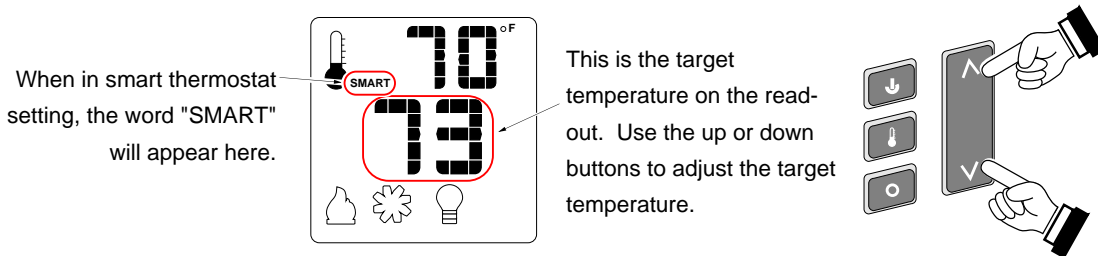

Figure 7
- SMART THERMOSTAT** – While in Smart Thermostat mode, the transmitter will control the burner to achieve the target temperature (see Figure 7 below). Flame height will be adjusted up or down to allow operation without turning the burner on and off (also called “smart modulation”). To adjust the target temperature, press the UP and DOWN buttons until a suitable temperature is achieved.